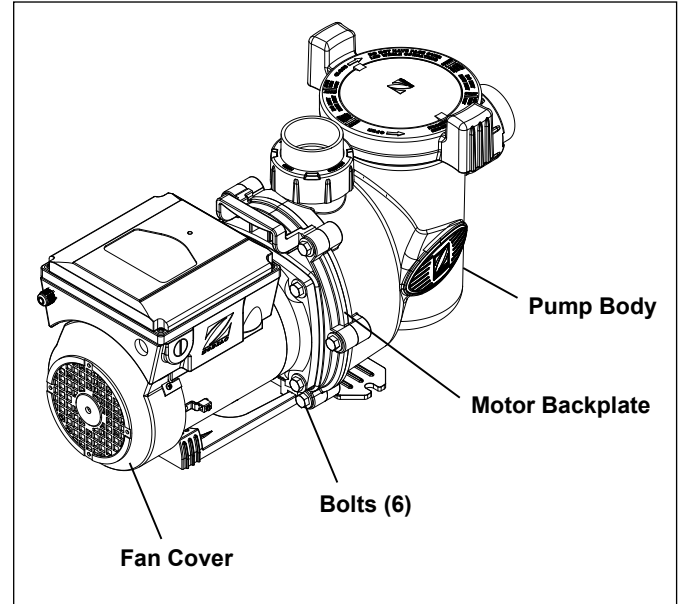

Figure 6. Remove the Pump Housing
3. Using a 9/16" wrench, loosen the bolts connecting the pump body to the motor backplate. See Figure 6.